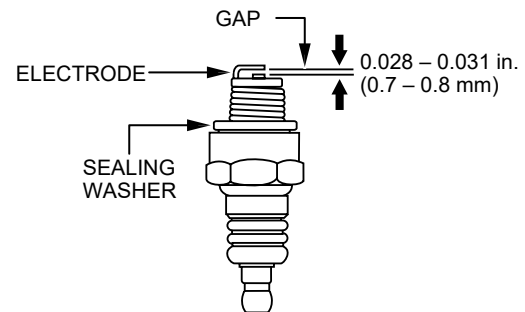

Figure 34. Engine Spark Plug
- Inspect the **spark plugs** (Figure 34). Replace the spark plugs if they are damaged or badly fouled, if the **sealing washer** is in poor condition, or if the **electrode** is worn.
- Measure the spark plug **electrode gap** (Figure 34) with a wire-type feeler gauge. If necessary, adjust the gap to 0.028–0.031 in. (0.7–0.8 mm) by carefully bending the side electrode.